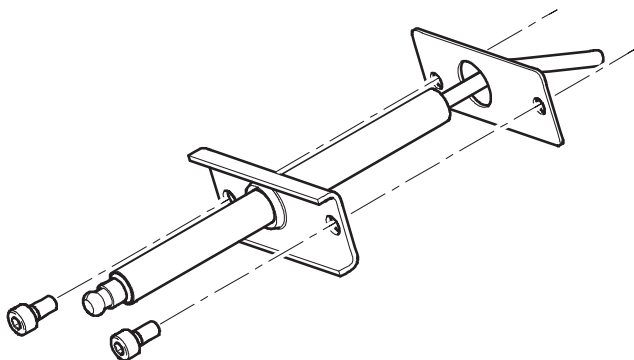

Figure 29: Flame Rod Assembly
- d. Install flame rod as shown in Figure 29.